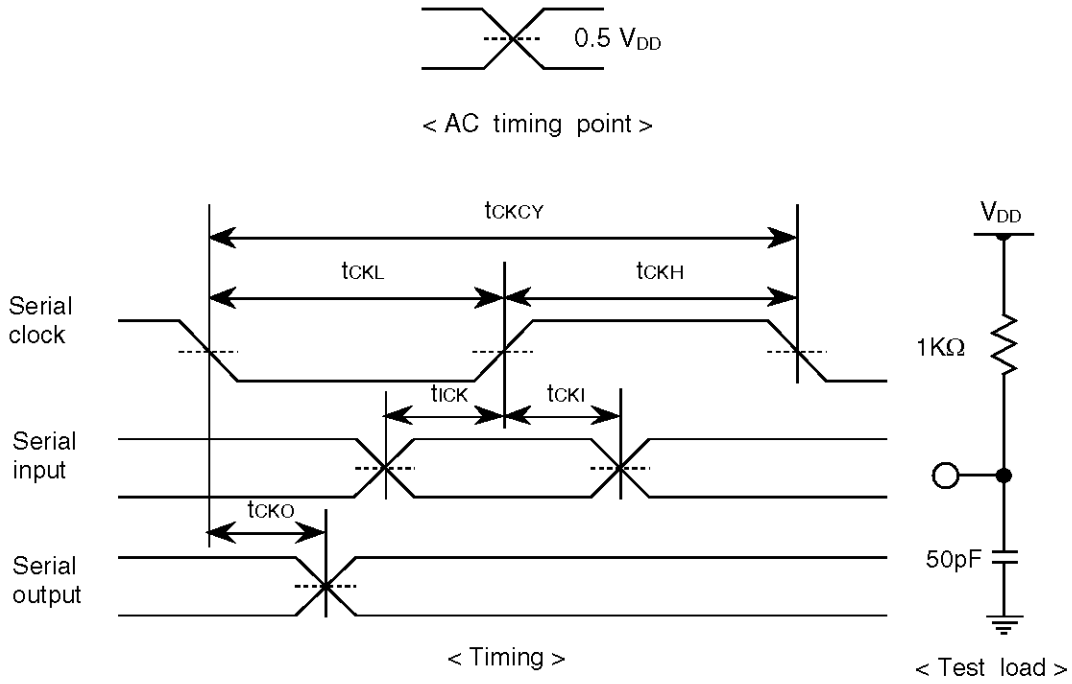

Figure 5 Serial Input/output Test Condition
| Serial clock | Input clock | Cycle | tCKCY (1) | <ul style="list-style-type: none"> • SCK0 • SCLK0 | Refer to Figure 5. | 4.5 to 5.5 | 2 | | tCYC |
| | Output clock | Cycle | tCKCY (2) | <ul style="list-style-type: none"> • SCK0 • SCLK0 | <ul style="list-style-type: none"> • Use a pull-up resistor (1 kΩ) during open drain output • Refer to Figure 5. | 4.5 to 5.5 | 2 | | |
| Serial input | Data set-up time | tICK | SI0 | <ul style="list-style-type: none"> • Data set-up to SCK0 rising • Data hold from SCK0 rising • Refer to Figure 5. | 4.5 to 5.5 | 0.1 | | μs | |
| Serial output | Output delay time (External serial clock) | tCKO(1) | SO0 | <ul style="list-style-type: none"> • Use a pull-up resistor (1 kΩ) during open drain output. • Data set-up to SCK0 falling • Data hold from SCK0 falling • Refer to Figure 5. | 4.5 to 5.5 | | | 7/12tCYC +0.2 | μs |